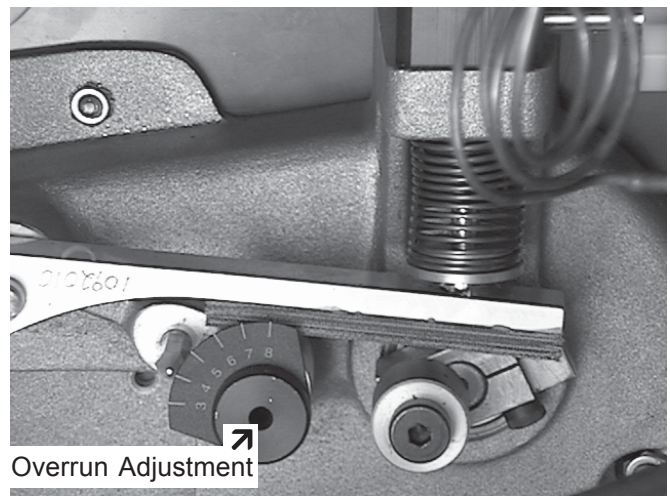

Figure 27. Overrun Adjustment
- C. On air compressor side of pump, locate the long/slender piston rocking arm. The rocking arm downward travel is limited by a stationery cam. On the face of the cam there is an overrun setting indicator plate numbered 3 thru 8 and an adjustment knob. Figure 27.